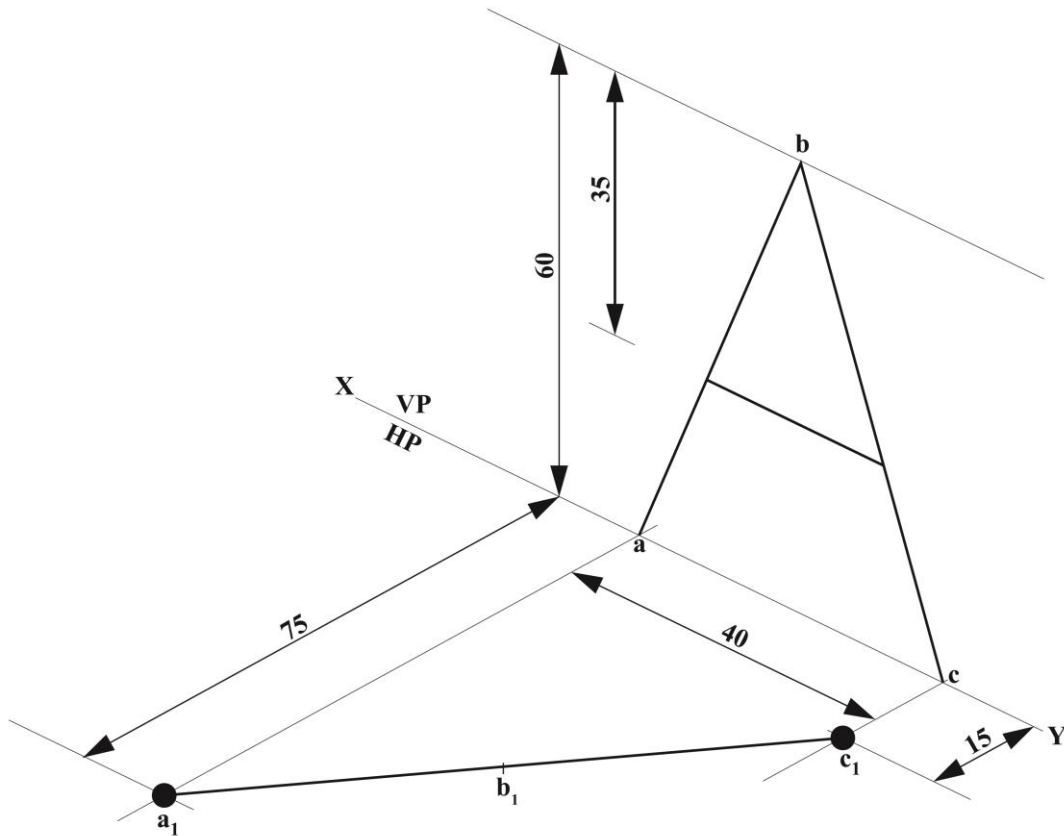

Figure 3. Shadow of letter "A"
- (b) The letter "A" (**not shown**) casts shadows on the horizontal plane and vertical plane as shown in figure 3.